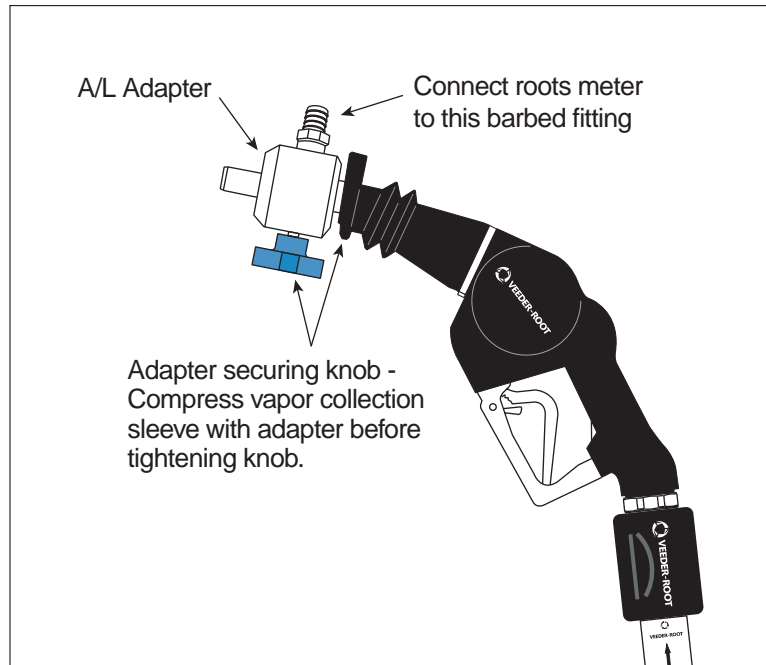

Figure 6. A/L Adapter/Roots Meter Test Setup
3. Slide the A/L Test Adapter over the nozzle spout so that the side with the hose-barb fitting is closest to the nozzle body and so that the adapter face mates firmly and seals against the face seal (see Figure 6).